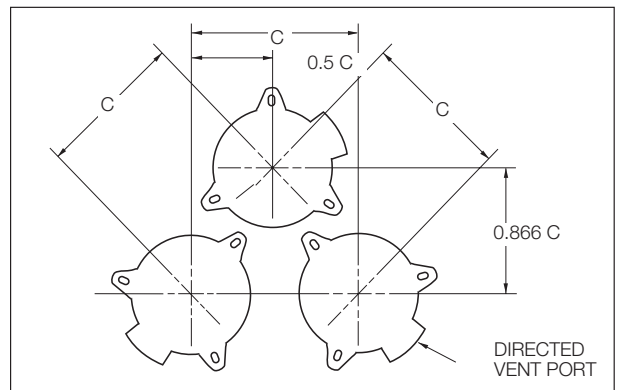
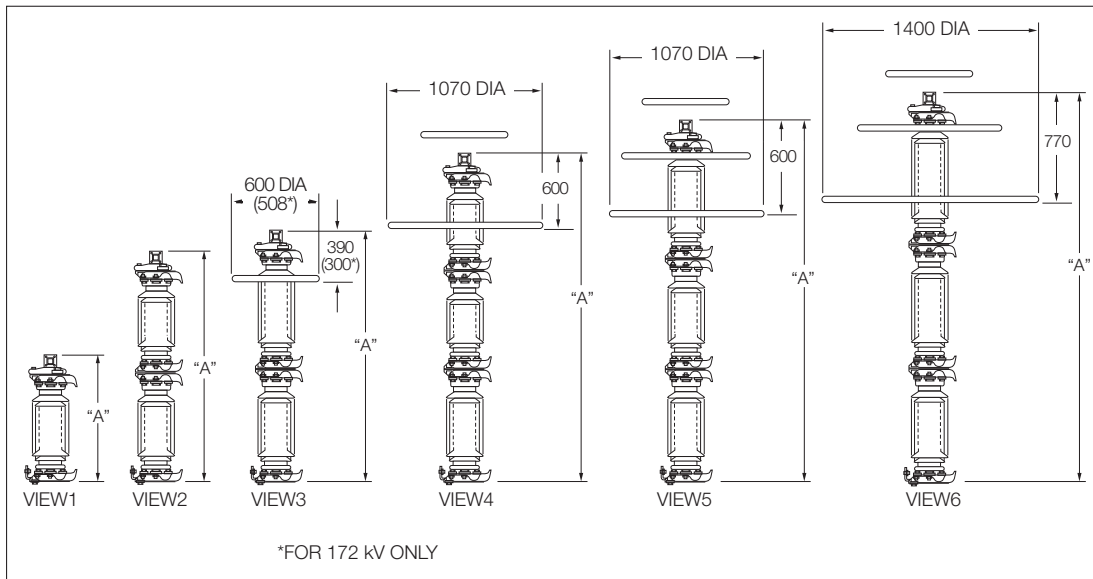

Figure 2. Three-phase triangular mounting.
Figure 7. Dimensions of VariSTAR Type AZG4 Surge Arrester.
any line potential surface to an arrester and to any ground plane are listed in Table 1. Figures 2 and 3 show alternate mounting arrangements. See Table 1 and Figure 7 for standard arrester height and leakage distance information.
5. Refer to Figure 7 for Dimension A.